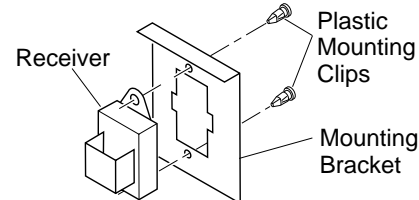

Figure 35 - Installing Remote Receiver (Shown from Rear of Mounting Bracket)
3. Install remote receiver unit onto mounting bracket using the two plastic mounting clips (see Figure 35).